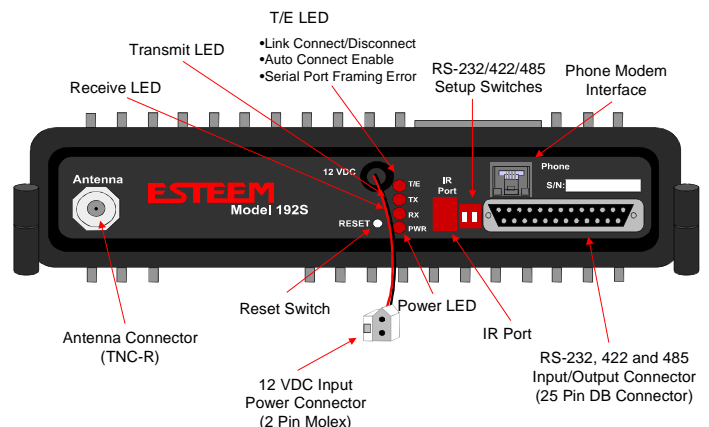

Figure 6: ESTEem Front Panel
window containing the ESTEem Model 192S front panel will appear (Figure 6). Press any one of the buttons for a complete description of the item's function. For example, press the Power LED button and the description of the power LED and its use will
10. Press Set Dip Switches button. This window will configure the ESTeem's RS-232/422/485 to operate at the setting selected in step 8. Turn both Switches 1 and 2 on the RS-232 setup switches (Figure 6) to the OFF/Down position and press the Reset Button on the ESTeem. Press Download Port Settings button to return to the Step 3 menu. Return Switch 1 on the RS-232/422/485 port setup switches to the ON position and press the reset button.
17. Press Test Communication button. This section will allow you to test the radio frequency (RF) communications between two or more ESTeems. Two types of tests are listed in this window (Figure 6). If you have a computer attached to both ESTeems proceed to step 18 and if you only have one computer to test both ESTeems proceed to step 19.